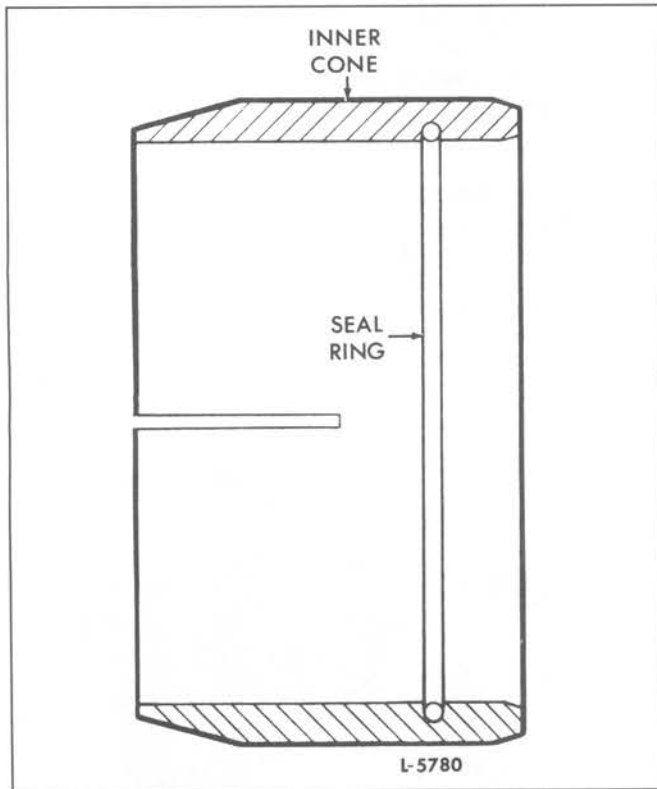

Fig. 5 - Inner Cone with Seal Ring (8V Engine)
- If removed, lubricate the new seal ring with engine oil and install it in the groove on the inner diameter of the current damper inner cone (Fig. 5). If the engine was built prior to November 1976, install a new inner cone and Nitrile seal ring.